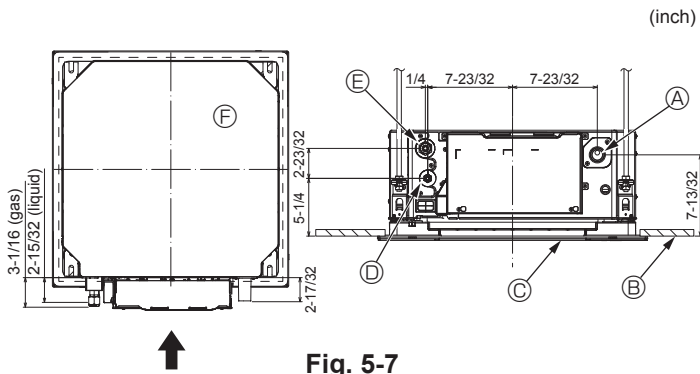

Fig. 5-7
5.4. Refrigerant and drainage piping locations (Fig. 5-7)